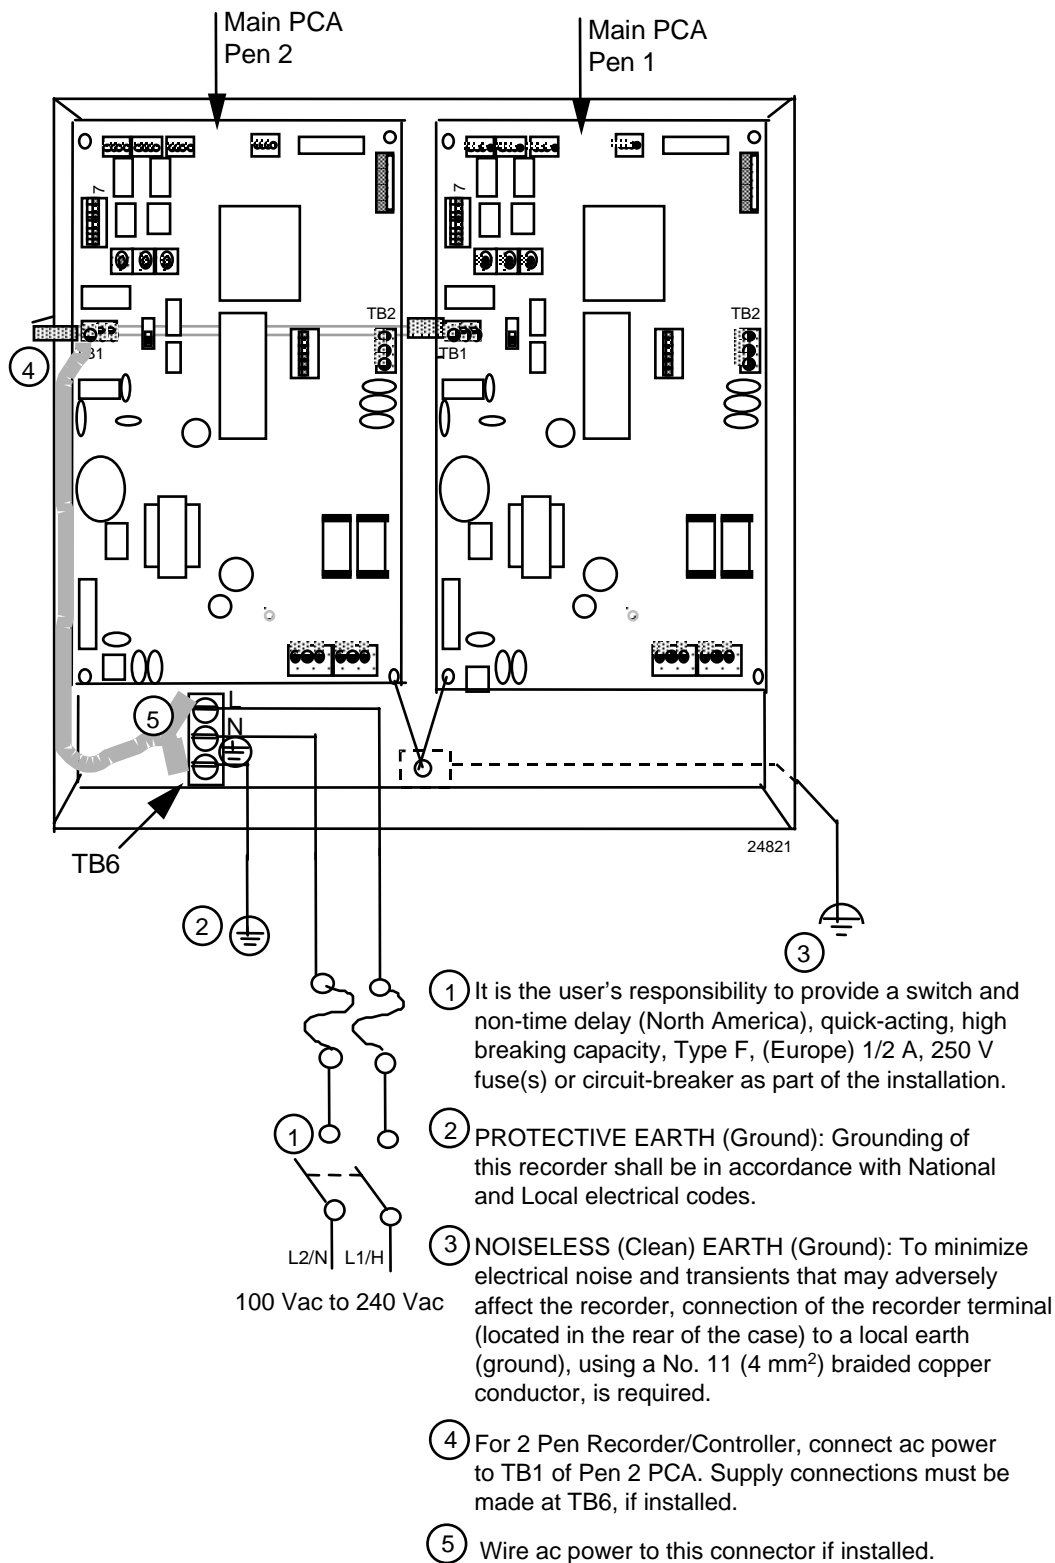
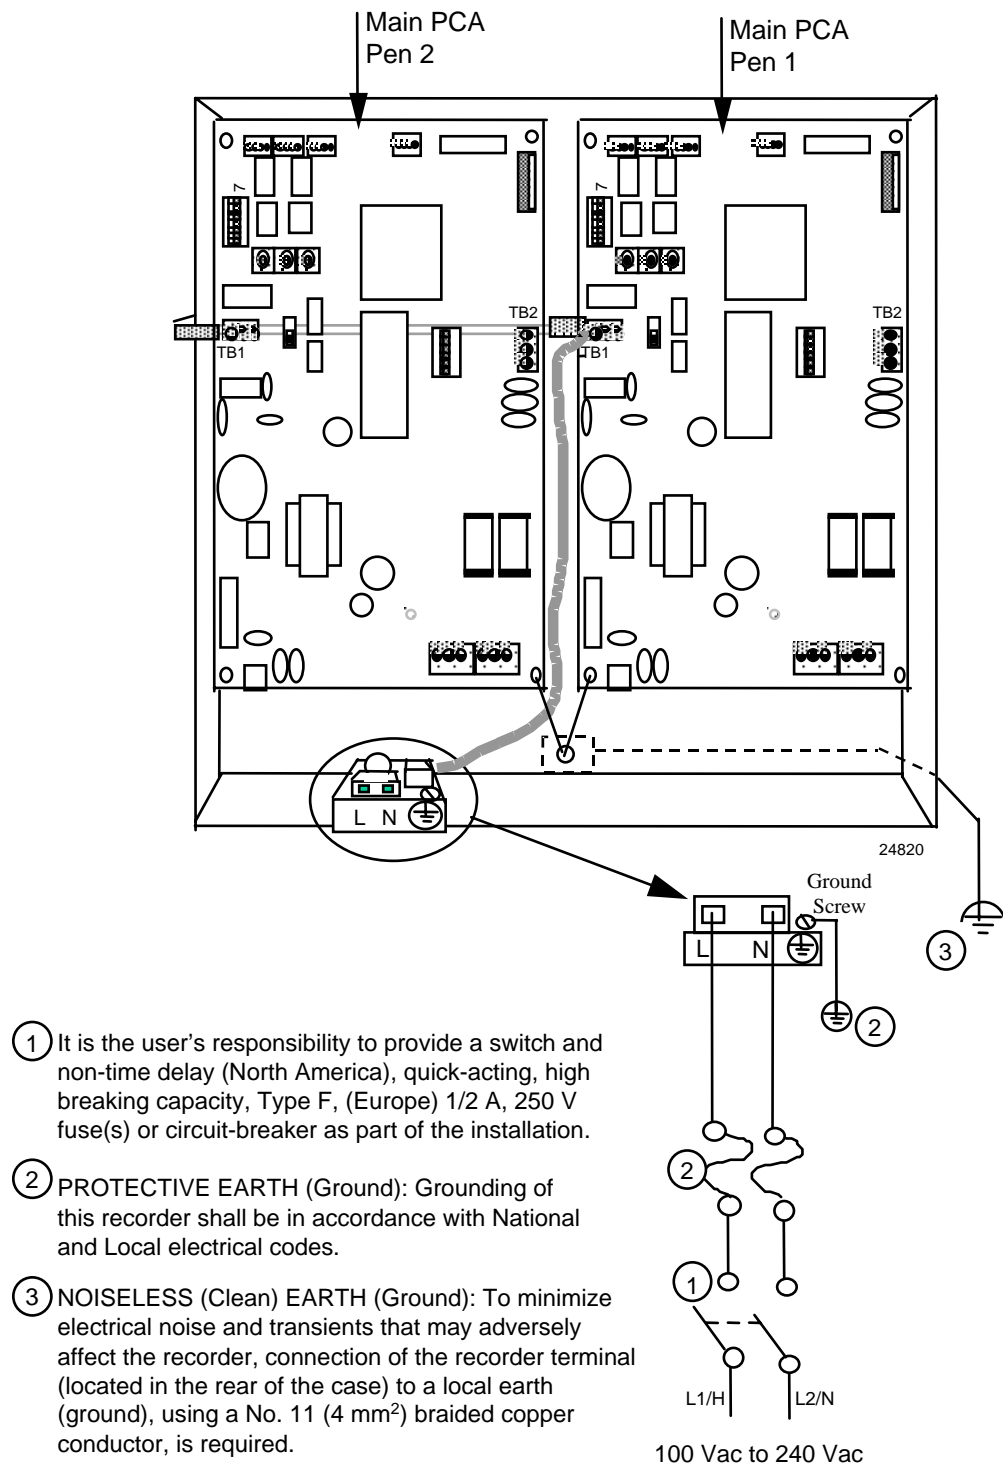

Figure 2-9 Power Wiring – Models Without CE Mark
Figure 2-10 Power Wiring – Models With CE Mark
Power Wiring - Models Without CE Mark	Figure 2-9
Power Wiring - Models With CE Mark	Figure 2-10
- Figure 2-9 for models without CE Mark.
- Figure 2-10 for models with CE Mark.
2	<p>Locate the power terminal block for your recorder model.</p> <ul style="list-style-type: none"> • See Figure 2-9 for models without CE Mark. • See Figure 2-10 for models with CE Mark. <p>Note that the power connection between the boards on two-pen models is made at the factory. On CE Mark and UL models the connection between the terminal block at the bottom of the case and the PCA is also made at the factory. In all models, you only have to connect power to a single terminal block.</p>
ATTENTION: To avoid damaging the recorder, be sure that you install the power wires into the correct screw terminals as shown Figure 2-9 and Figure 2-10.
ATTENTION To avoid damaging the recorder, be sure that you install the power wires into the correct screw terminals as shown in Figure 2-9 and Figure 2-10.
ATTENTION To avoid damaging the recorder, be sure that you install the power wires into the correct screw terminals as shown Figure 2-9 and Figure 2-10.